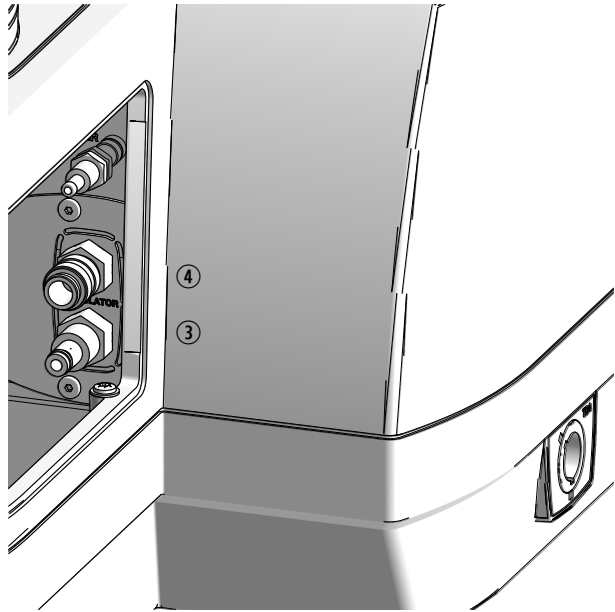

Fig. 15: Hose connections inside the instrument for the temperature device
3. Connect both hoses of the temperature device to the two connectors inside the instrument (Fig. 15, ③ and ④).